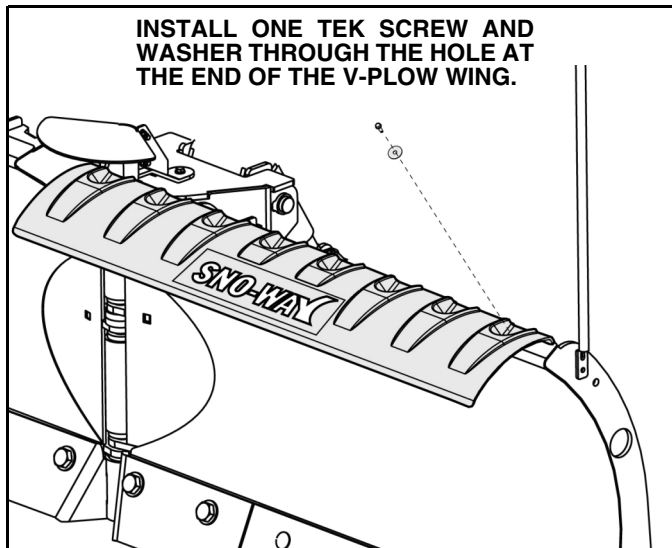

Figure 1-1
2. Position (1) Snow Deflector section (p/n 96108615) to the outside top edge of the DS V-Blade wing. Clamp the deflector flat against the top of blade using a padded bus bar or spring clamp. With the deflector clamped in place, install (1) self drilling tek screw (p/n 98100386) and flat washer (p/n 98100387) through the hole in the deflector closest to the end of the blade. (See Figure 1-1).